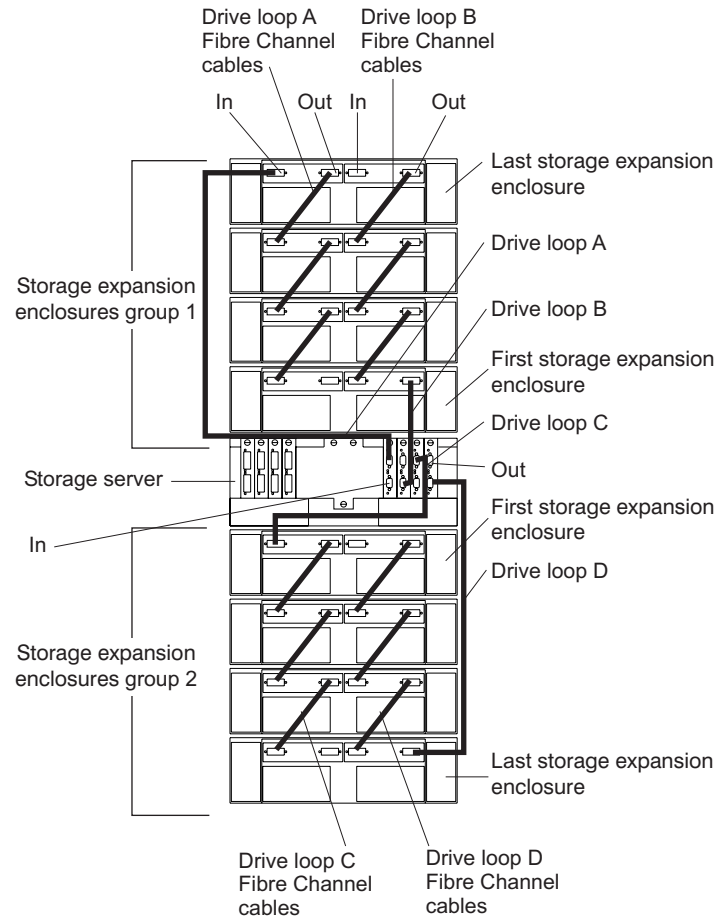

Figure 49. Connecting two redundant storage expansion enclosure groups
3. Connect drive loop C to the DS4500 Storage Server, as shown in Figure 49 on page 51.
4. Connect drive loop D to the DS4500 Storage Server, as shown in Figure 49. Starting with the last storage expansion enclosure in storage expansion enclosure group 2, connect the Out port on the right ESM board to the In (lower) port on mini hub 1. Leave the In port on the right ESM board on the first storage expansion enclosure in storage expansion enclosure group 2 and the Out (upper) port on drive mini hub 1 unoccupied.